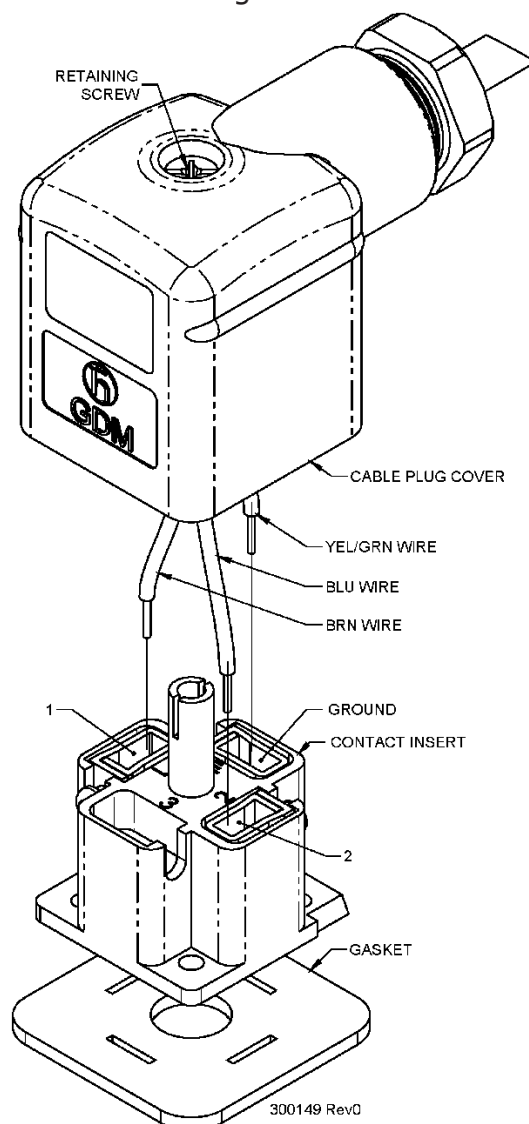

Figure 27 - Solenoid Valve Cable Plug Connections
1. If at the beginning of sparking, the solenoid valve does not audibly click open and no fuel flows, unplug the solenoid valve cable plug from the solenoid valve body (see Figure 12 for location and see Figure 27 for connection). Measure the voltage between the blue and brown wires of the plug; it should be between 12V and 14V when the SI module is sparking. If it is, replace the solenoid valve.